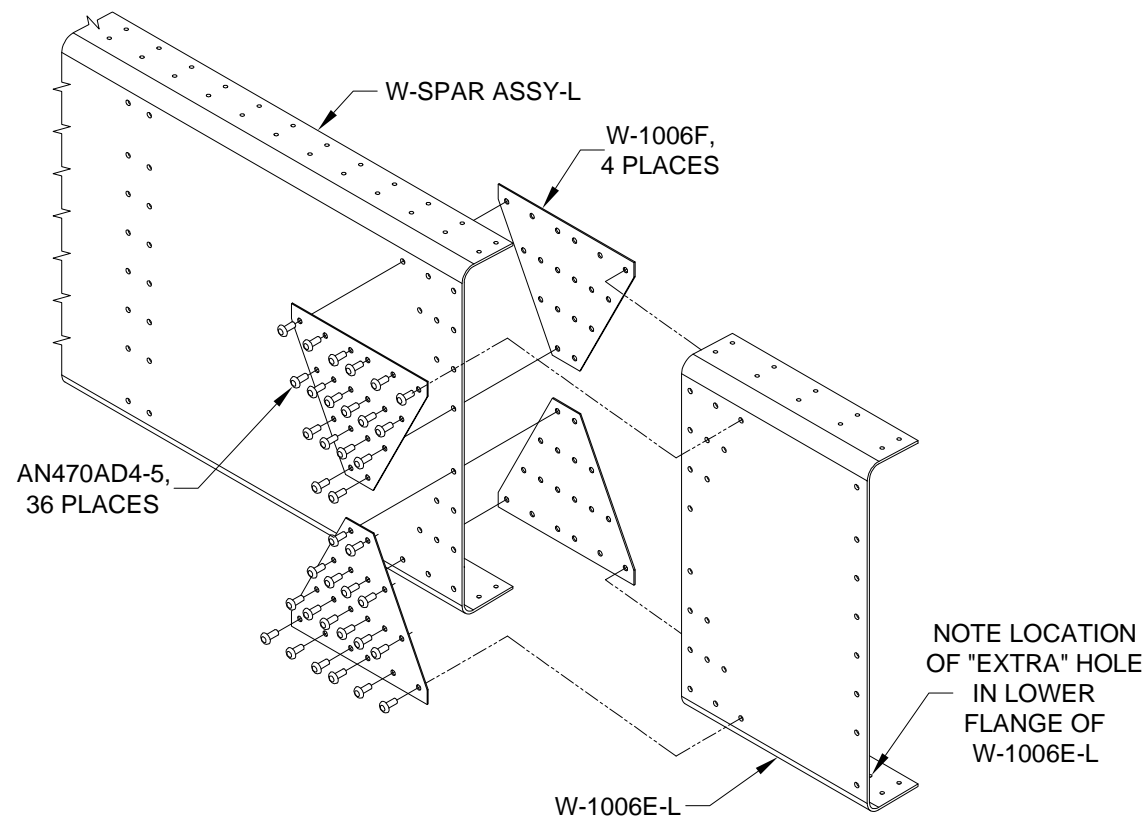

FIGURE 1:
Step 1: Cleco the W-1006E-L Main Spar Web Extension to the W-SPAR ASSY-L Spar Assembly - Left using four W-1006F Spar Splice Plates. Correct orientation of the main spar web extension places the "extra" hole in one of the flanges on the bottom. See Figure 1. Final-Drill the spar splice plates to the spar assembly and web extension using a #30 drill.
Step 4: Re-cleco the four W-1006F Spar Splice Plates and W-1006E-L Main Spar Web Extension to the W-SPAR ASSY-L Spar Assembly - Left and install rivets as shown in Figure 1.